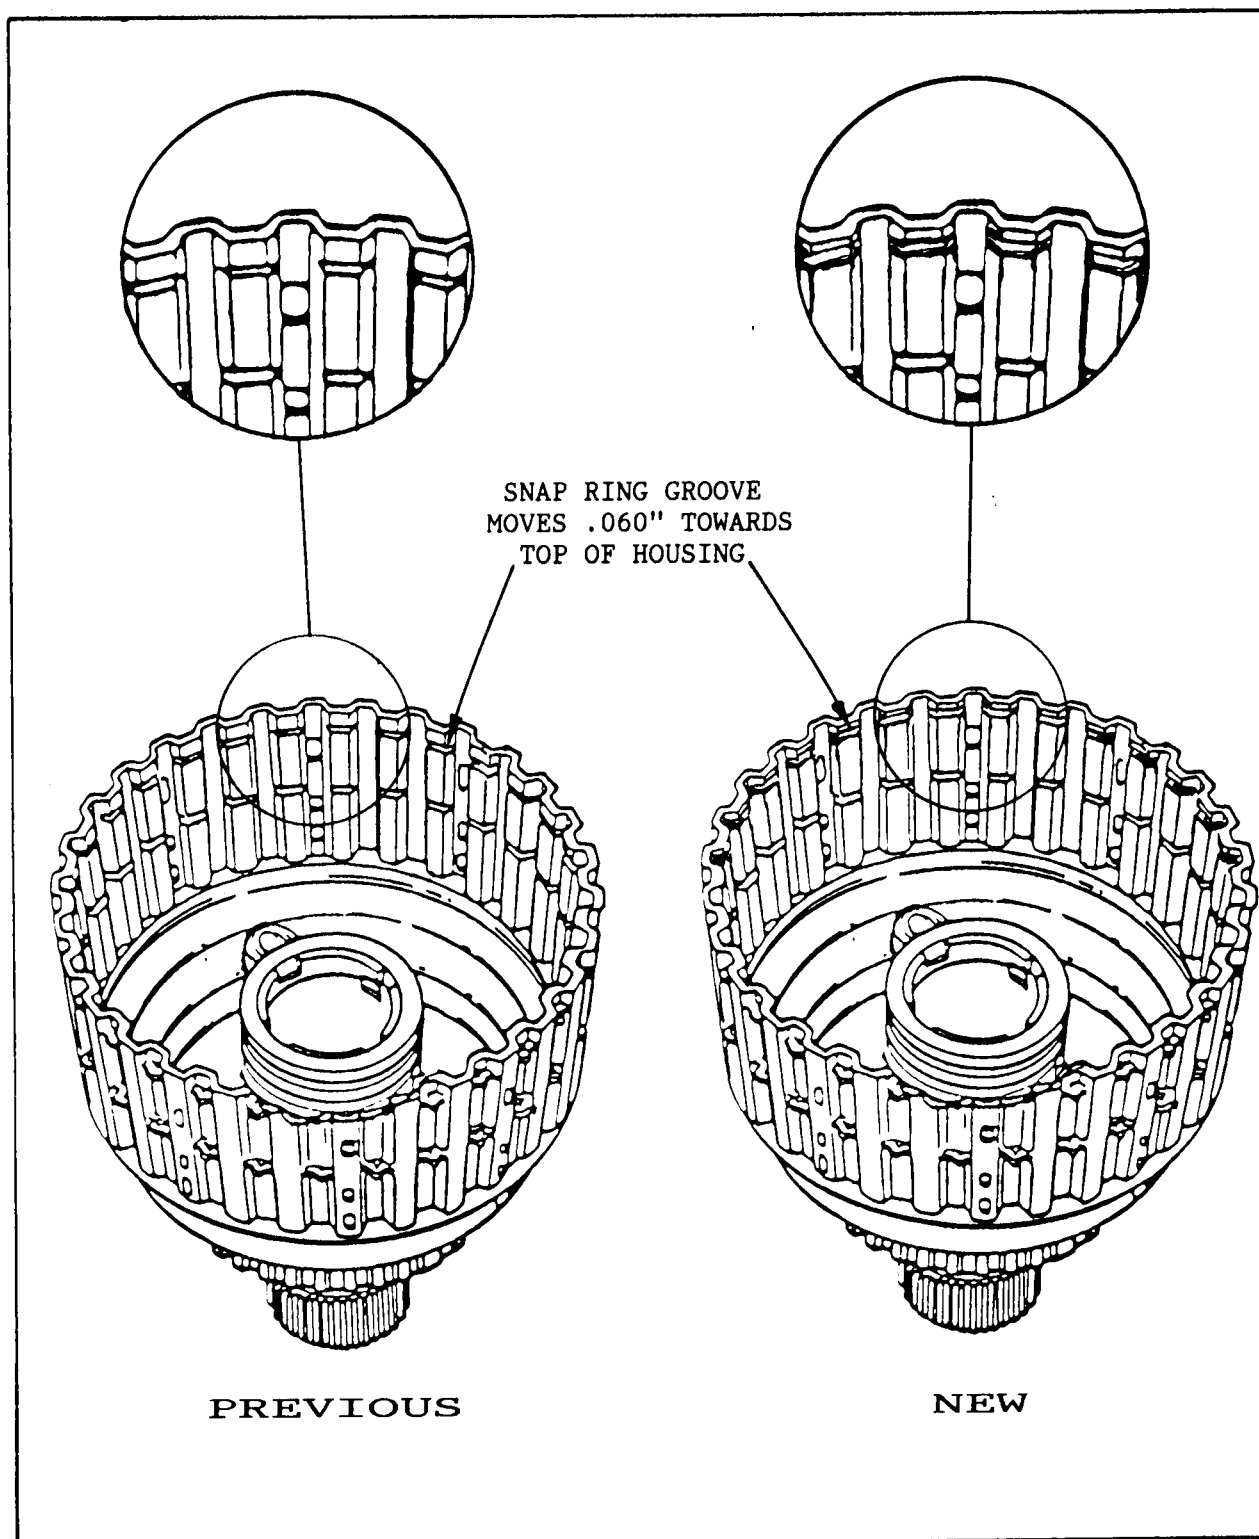

Figure 20
- (2) INPUT HOUSING - Top snap ring groove moves .060" closer to the top of the input housing, to accomodate the added wave plate (See Figure 20).